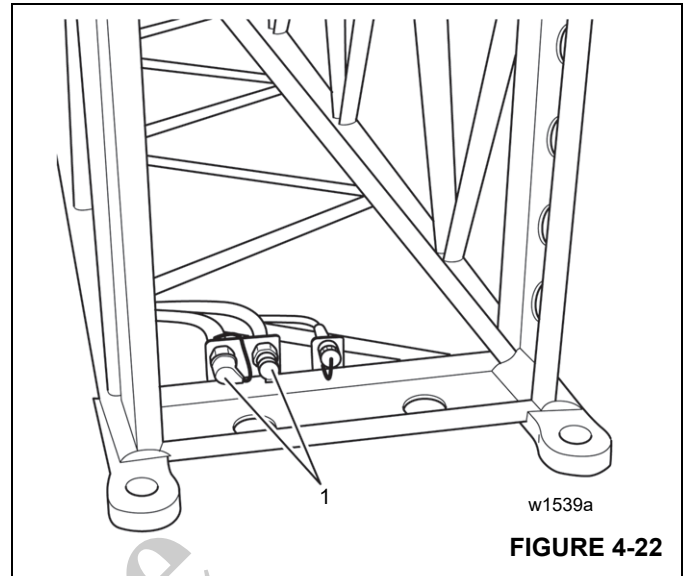

FIGURE 4-22
At the front of the 26 ft (8 m) inserts there are two quick couplings (1) (Figure 4-22).